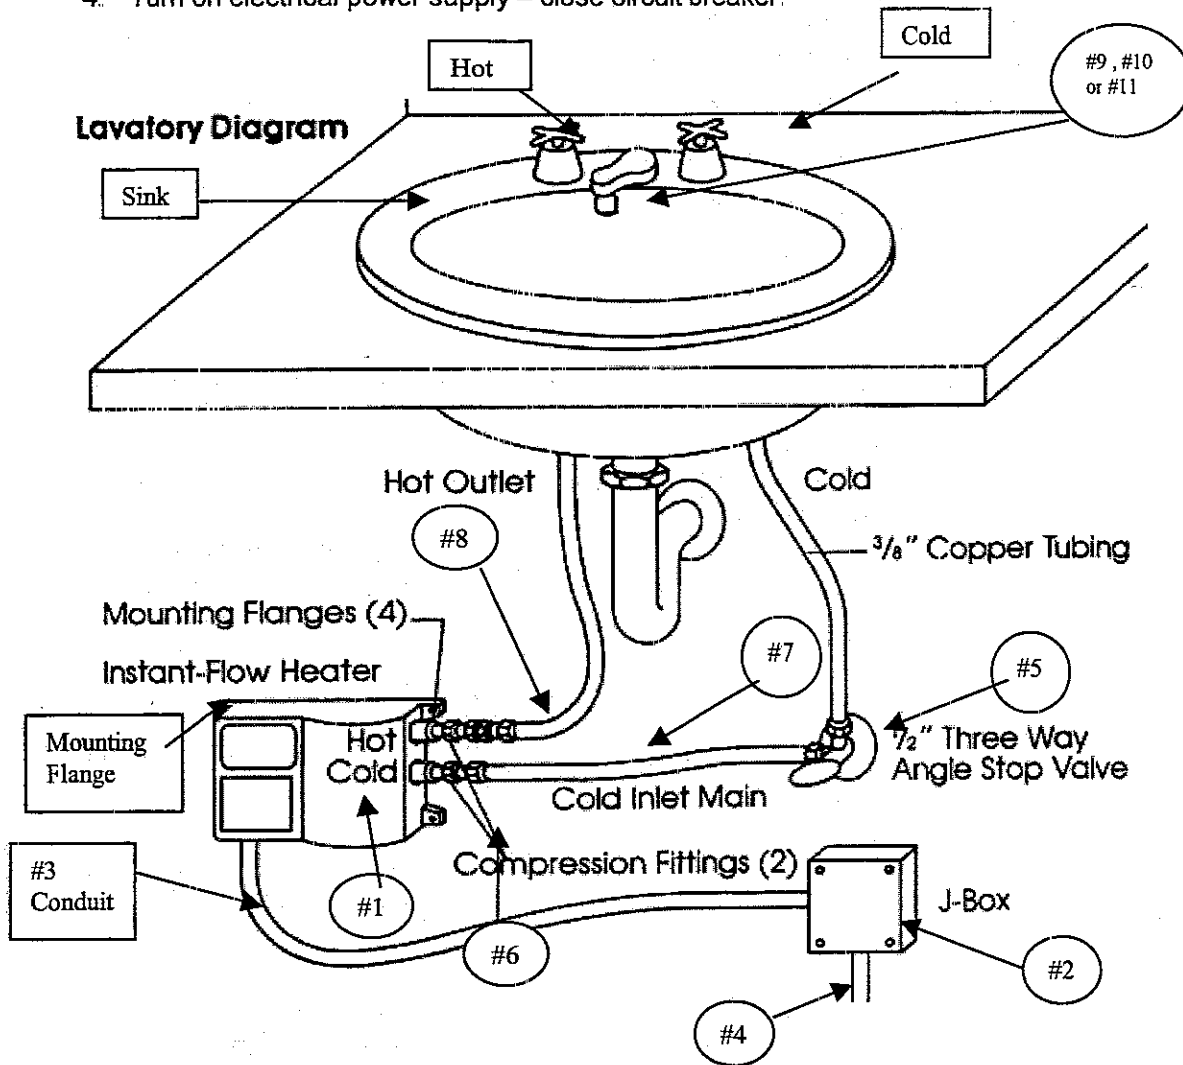

FIGURE 1 HEATER INSTALLATION
2. Mount unit horizontally against the wall so the silver label reads correctly (See Fig. 1). Mount with four screws through the flanges located on each corner using molly anchors or fasteners.
3. Connect plumbing. Use 1/2" tapered national pipe thread at cold water inlet and hot water outlet (See Fig. 1) Use compression fittings supplied for ease of installation. Do not apply heat to these fittings